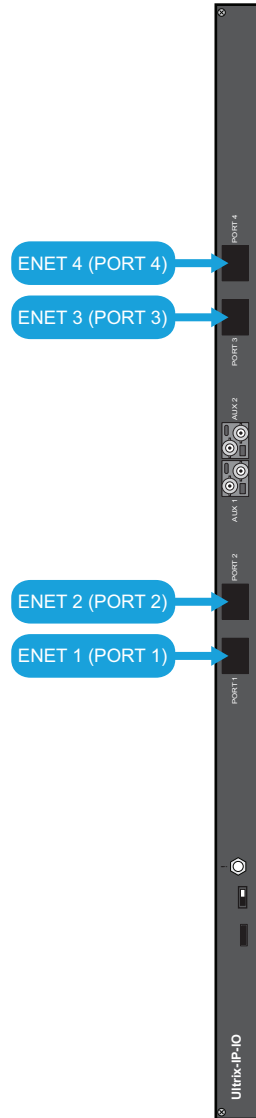

Figure 15 ULTRIX-IP-IO — PORT Connections
3. Cable your SFP+ module as required. (**Figure 15**)